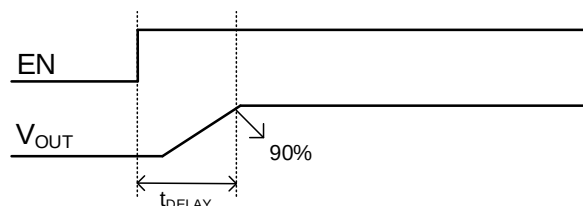

Figure 9: EN On to V_{OUT} Exceeds 90% Delay
If the output is pre-biased to a certain voltage during start-up, the IC disables both HS-FET and LS-FET switching until V_{SS} exceeds the internal feedback voltage (V_{FB}) (see Figure 9).
Start (S) and stop (P) commands are signaled by the master device, which signifies the beginning and end of the digital interface transfer. A start command is defined as the SDA signal transitioning from high to low while the SCL is high. A stop command is defined as the SDA signal transitioning from low to high while the SCL is high (see Figure 9).